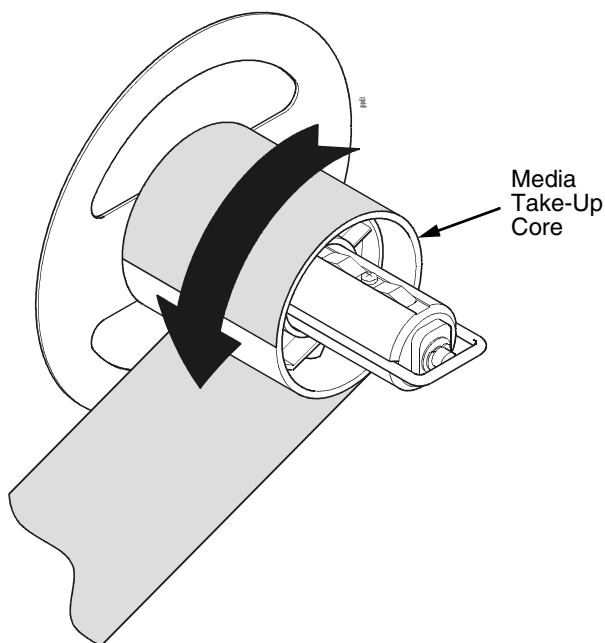

Figure 20. Tightening the Media on the Media Take-Up Core
7. Manually rotate the media take-up core one full revolution until the media is taut. See Figure 20.